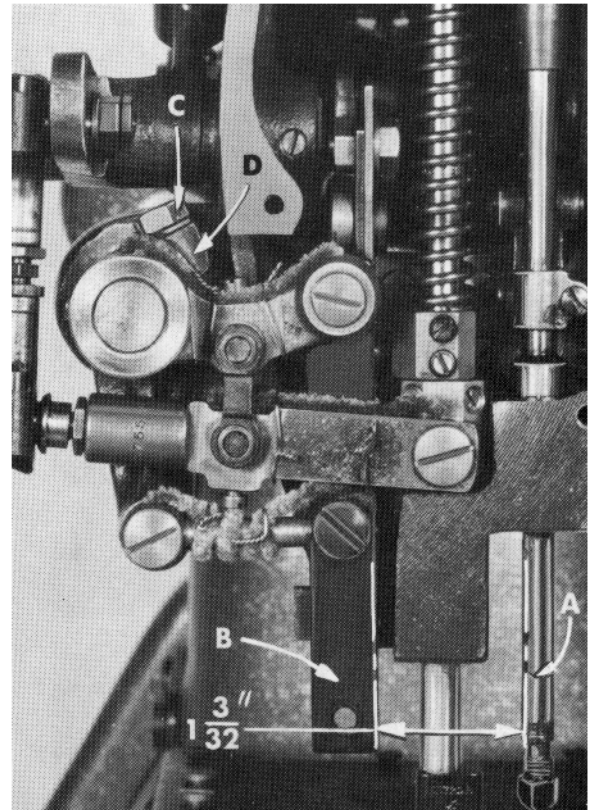

Fig. 8
As the needle bar just begins to rise from the bottom of its stroke, the distance between the rear of the needle bar (A, Fig.8) and the front of the upper feed bar (B) should be 1 3/32 inch (Fig. 8). Adjustment can be made by loosening screw (C) in the upper feed driving lever (D) and moving it forward or rearward as required and retighten screw (C).